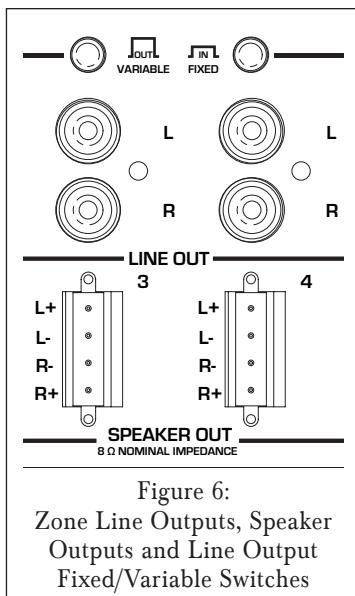

Figure 6:
5. After making sure that there are no stray wires touching each other, tighten the set screws to secure the wires, as shown in *Figure 6*, on page 13.
6. Press the removable connector into the corresponding zone SPEAKER OUT connector on the controller until it locks into place (see *Figure 6*).
In addition to Speaker Output connectors, each zone on the C4630 SE also has a set of Line Output jacks (see *Figure 6*). The Zone Line Outputs let you connect high-power amplifiers to individual zones that require more power than the C4630 SE's built-in 30 Watt/ch amplifier can provide, or expand a zone into sub-zones by using a multi-channel amplifier.
Each zone Line Output has a push-button switch that toggles the Line Output between VARIABLE (OUT) and FIXED (IN). (See *Figure 6*.) The VARIABLE setting allows zone keypad and remote controllers to control the level of the Line Outputs. In the FIXED setting the Line Output level cannot be varied. Keypad and remote control MUTE controls function in both the FIXED and VARIABLE settings.